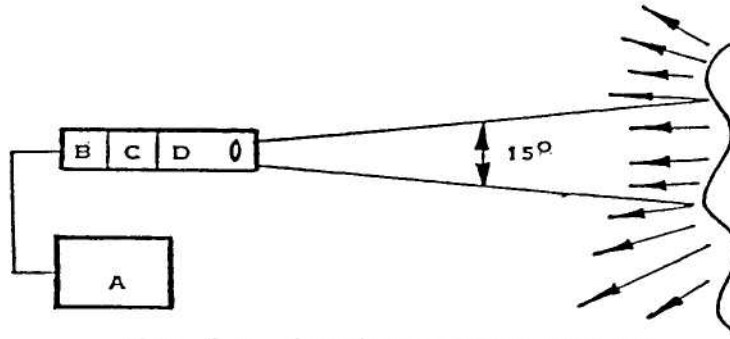

Fig. E-6. Luminance Measurement
3. Point the head towards the extended source as shown in Figure E-6